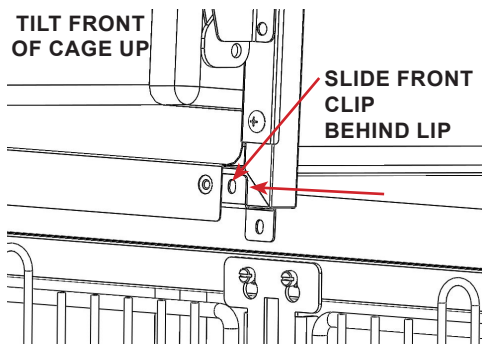

FIGURE 2.35 - Front Clip Installation
**STEP 7:** Remove the bottom-right trim plate screws. See FIGURE 2.35
NOTE: A trim plate to be added in a later step will secure the clip in place, which prevents the cage from sliding forward. See FIGURE 2.35 and 2.36